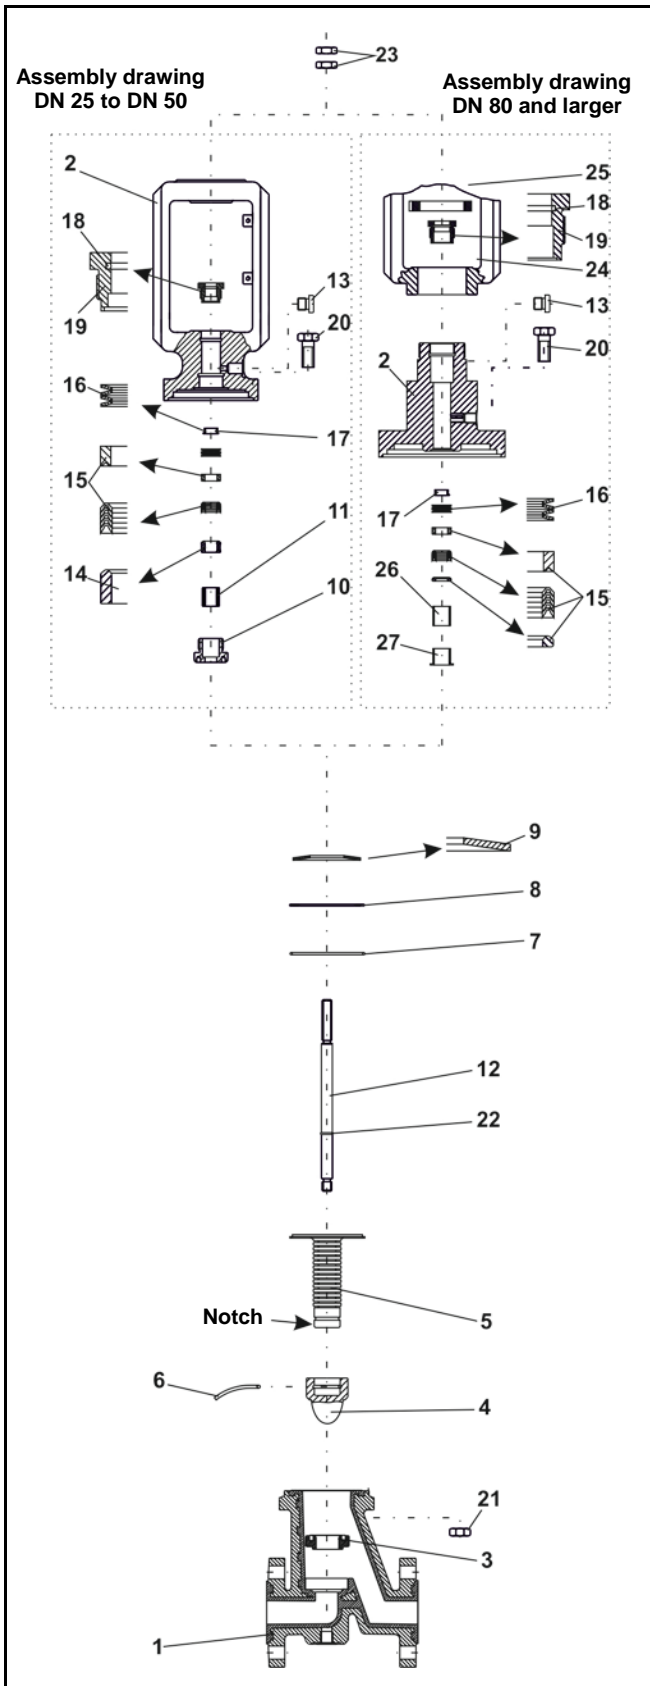

Fig 5 - Explosion drawing of BR 01b Control Valve, manufactured before 2006
**Note:** The position and arrangement of the individual parts shown in the explosion drawing (Fig. 5) must be observed when assembling the valve.
Place the set of spring washers (16) in the intended bore. Refer to the explosion drawing (Fig. 5) for the arrangement.
Insert the final ring, the V-rings of the packing (15) and the distance bushing (14) in the correct order. Refer to the explosion drawing (Fig. 5) for the correct order.
Press the thrust washer, PTFE V-rings, final ring into the intended bore in the correct order. Refer to the explosion drawing (Fig. 5) for the arrangement of the V-ring packing.
Insert the set of spring washers (16). Refer to the explosion drawing (Fig. 5) for the correct arrangement of the spring washers.
Insert the spring washer (9), thrust washer (8) and O-ring (7) into the bonnet flange (2). Refer to the explosion drawing (Fig. 5) for the arrangement of the parts.